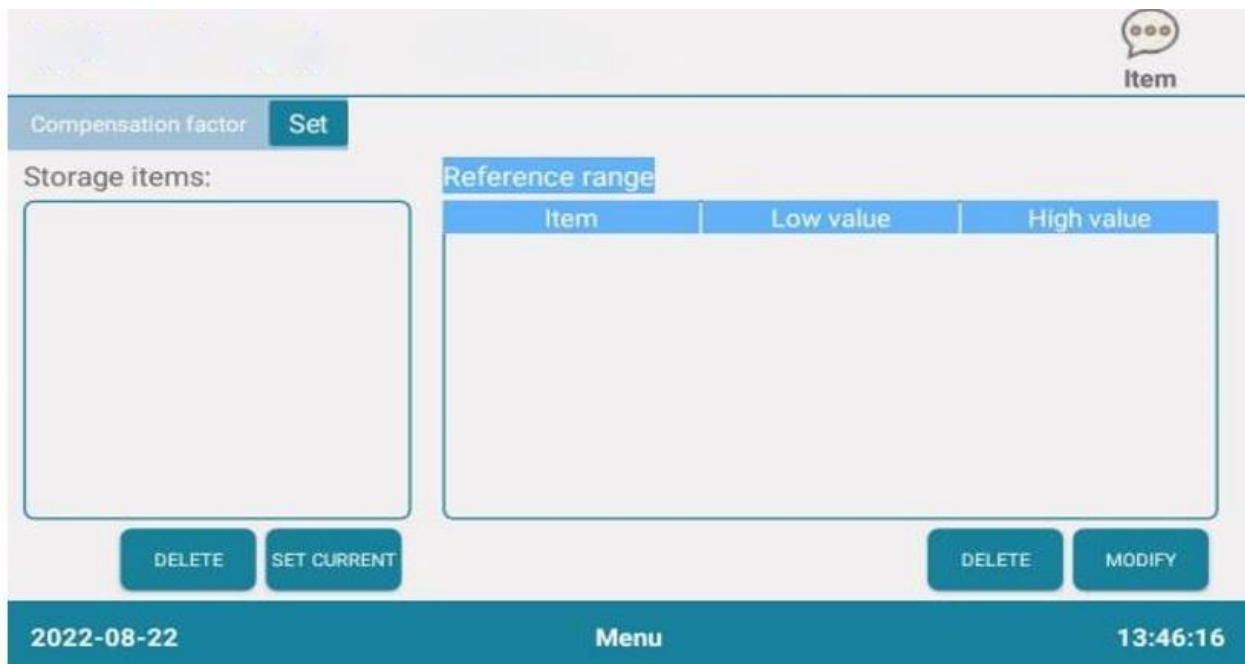

Fig.10
1. As shown in Figure 10, the project list can be viewed in the project settings, and the project reference value can be set